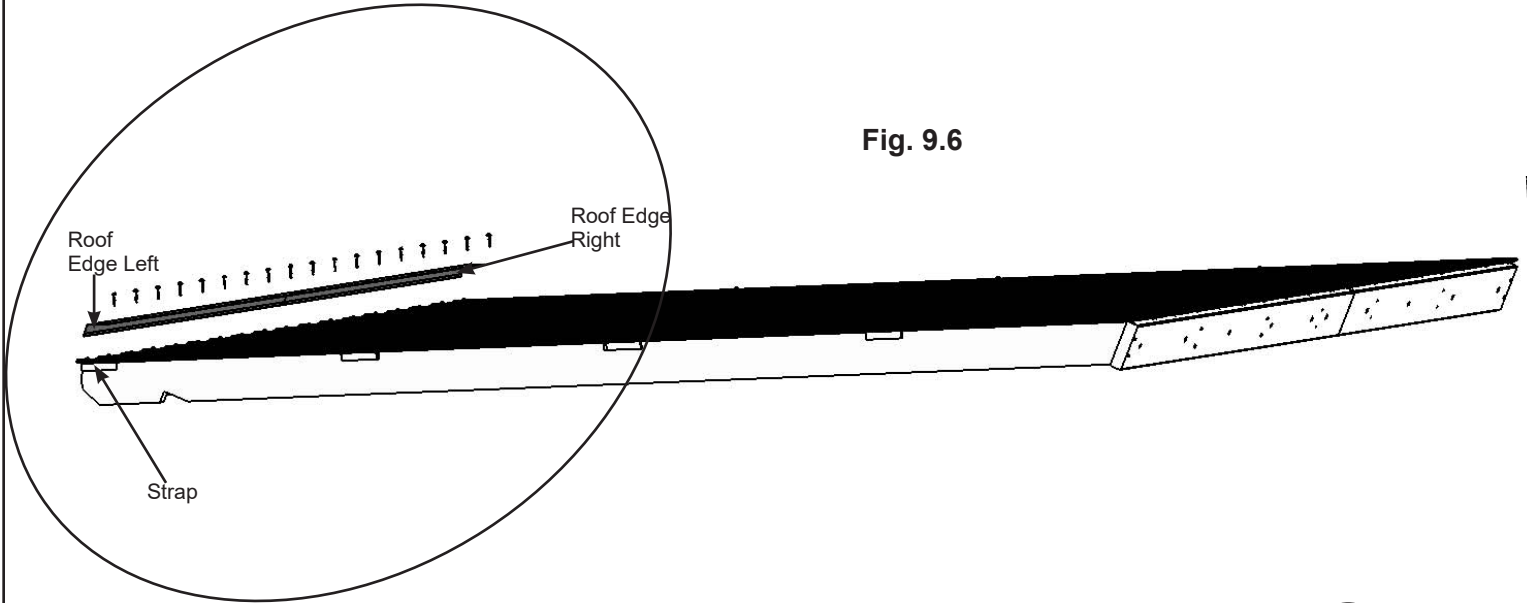

Fig. 9.6
E: Place one Roof Edge Left and one Roof Edge Right on the bottom of each Roof Panel Frame so they meet tight and the ends are flush with the outside ends of (544) Short Strap and (543) Long Strap. Pre-drill the two end holes with a 1/8" drill bit then attach both Roof Edges with 18 #8 x 1" Hex Roofing Screws. (fig. 9.6 and 9.7)